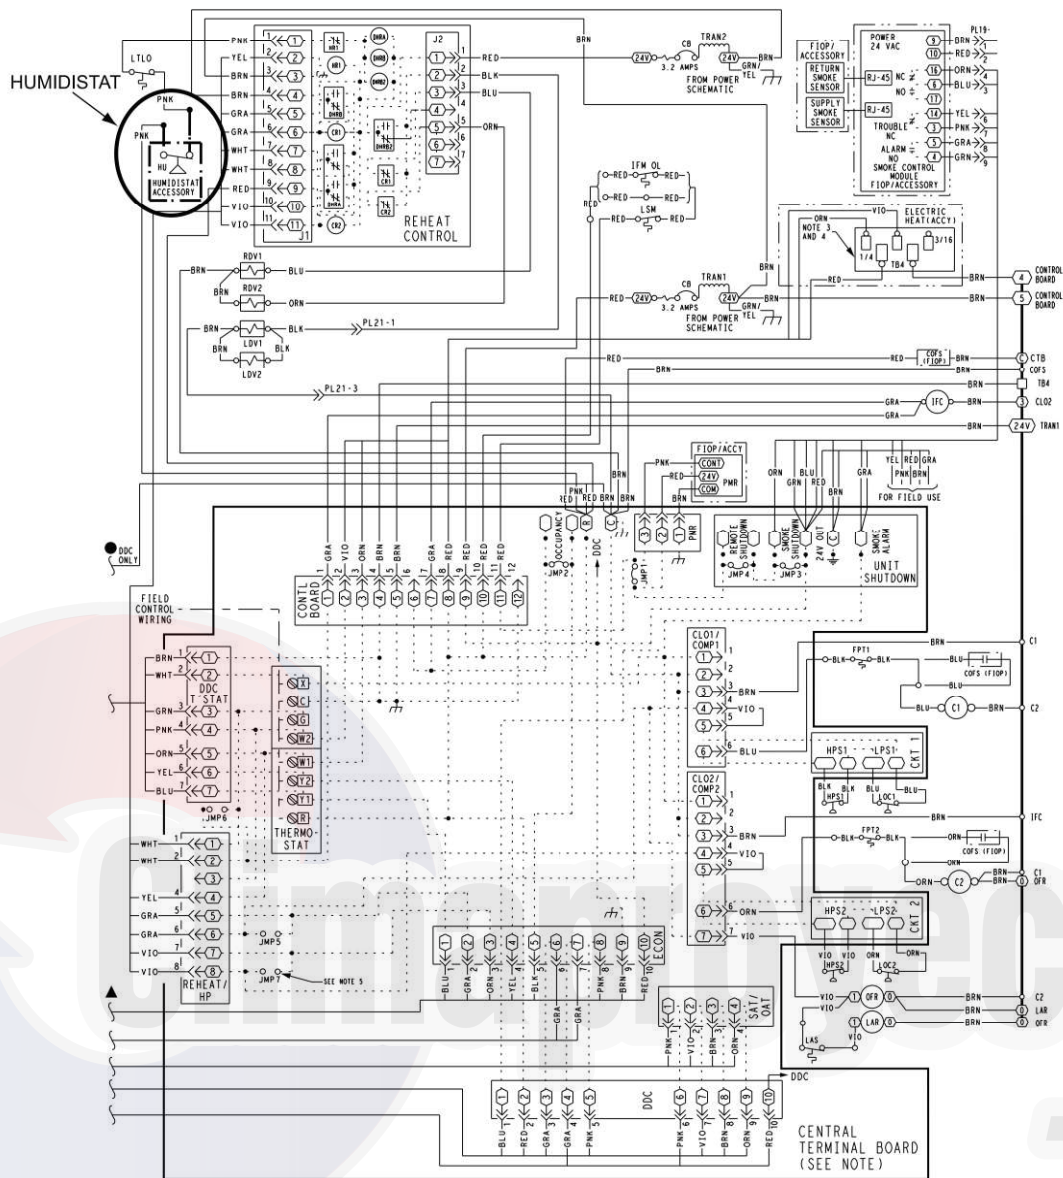

Fig. 61 — Typical Perfect Humidity™ Adaptive Dehumidification System Humidistat Wiring 558J*16 Unit Sizes
5. Use wire nuts to connect humidistat cable to two PINK leads in the low-voltage wiring as shown in Fig. 61.